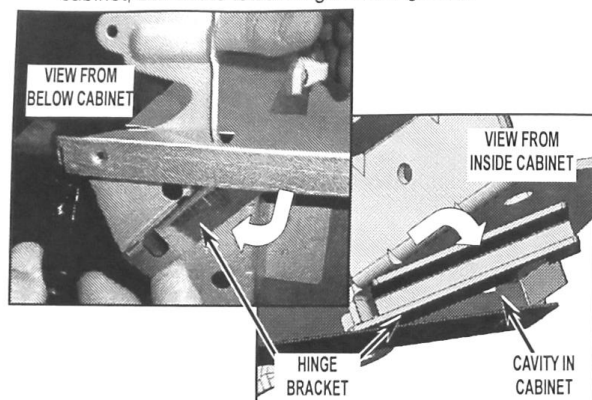

FIGURE 9
11. Rotate hinge bracket so that it seats into the cavity in the cabinet, below the lower hinge. See Figure 9.